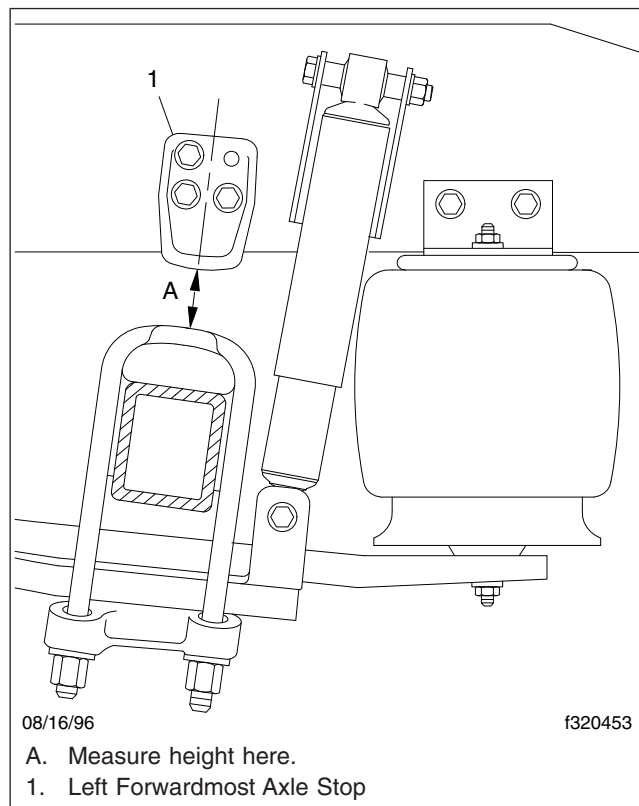

Fig. 7, AirLiner Axle Stop Measurement
7. On single-drive rear axle configurations, measure the distance from the bottom of the left axle stop to the top of the U-bolt pad. On dual-drive rear axle configurations, measure the distance from the bottom of the forwardmost left axle stop to the top of the axle U-bolt pad. See **Fig. 7**, Ref. A. The correct distance for single and dual-drive rear axles is from 2-3/8 to 2-7/8 inches (60 to 73 mm).